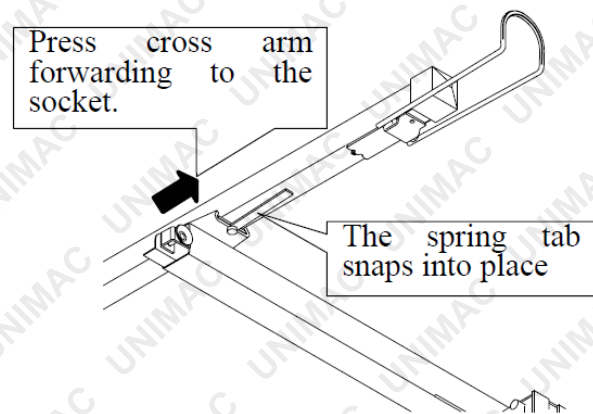

Fig. 11
- Press each cross arm forward to the socket until the spring tab on the bottom of the cross arm snaps into place, as shown in Figure 11.